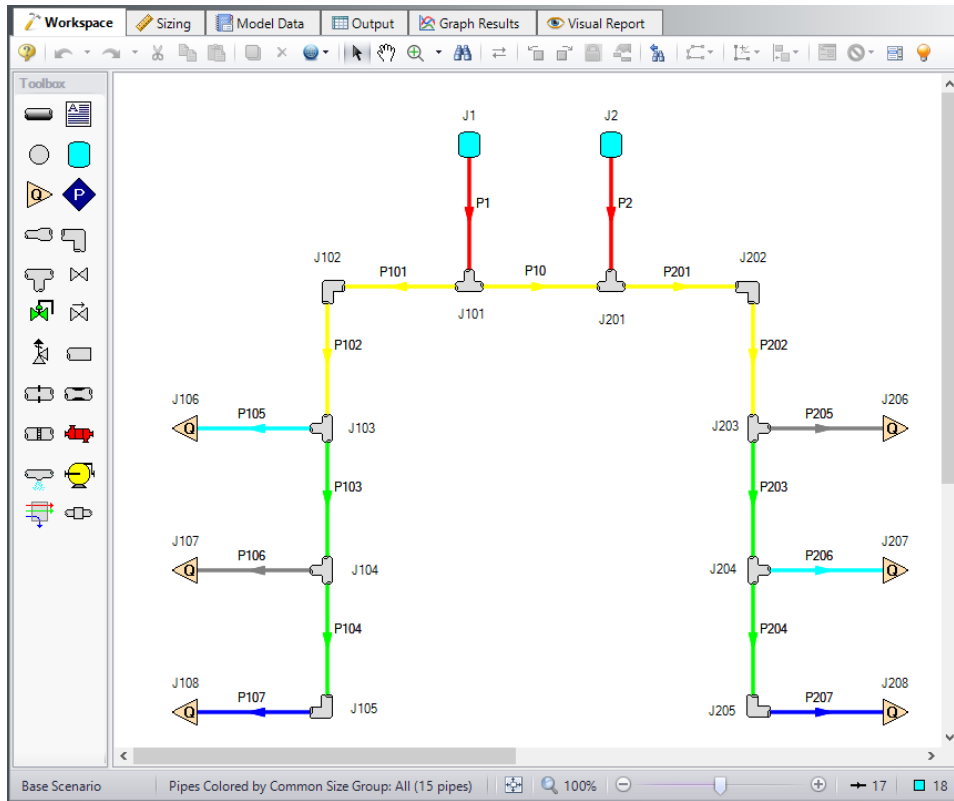

Figure 2: Process Steam model Workspace with the Common Size Groups indicated by color
To more efficiently size the system, it would be beneficial to create common size groups. In this system there are several sections of piping which would likely be grouped together. Create Common Size Groups as described below and indicated by the colors in Figure 2.
2. Using a common pipe size for the headers would be desirable in this system to reduce installation costs and reduce losses. However, grouping the headers downstream of users 1 and 4 separately could allow us to use a smaller size for those pipes and save costs. Create two groups, *Mains* and *Headers* as shown in yellow and green respectively in Figure 2.